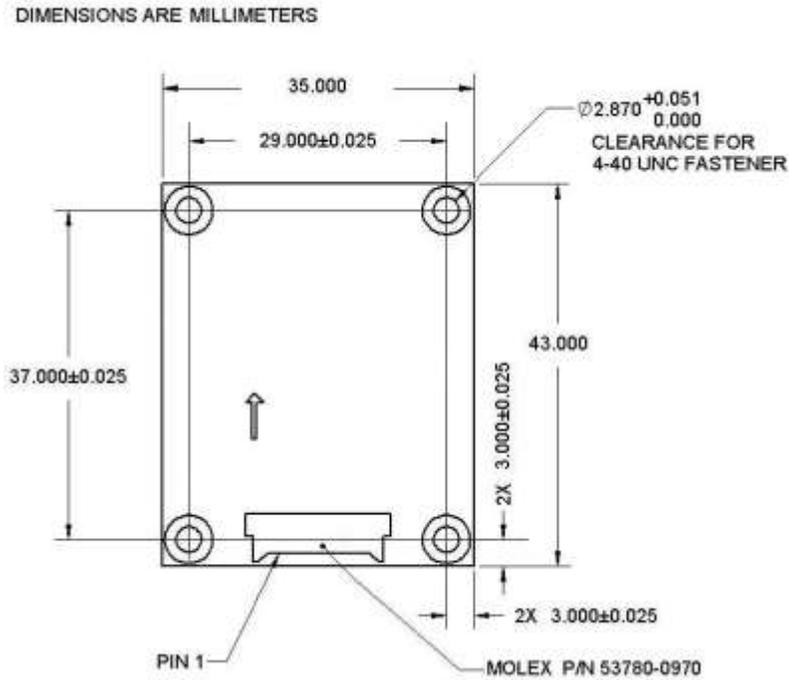

Figure 3-2: Trax PCA Mechanical Drawing
1. For the Trax Enclosed, pin #1 is the first pin to the left of the key, and numbering runs counter-clockwise from pin #1, with pin #7 in the middle. For the Trax PCA, pin #1 is indicated on Figure 3-2.